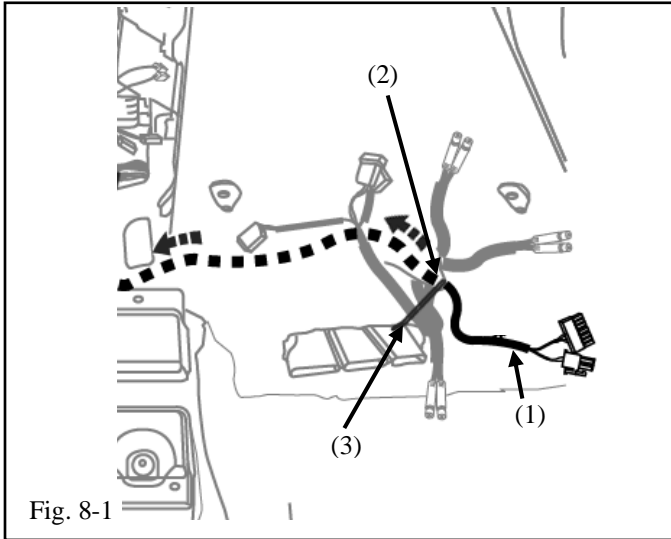

Fig. 8-1
- (1) Route the Power/Audio Interface Harness (1) from the location where AIM Bracket will be installed to the carpet opening (2) under the passenger seat and toward the center console. (Fig. 8-1)
- (2) Secure the Power/Audio Interface Harness (1) to the vehicle harness using one 8" cable tie (3) at the carpet opening (2). (Fig. 8-1)